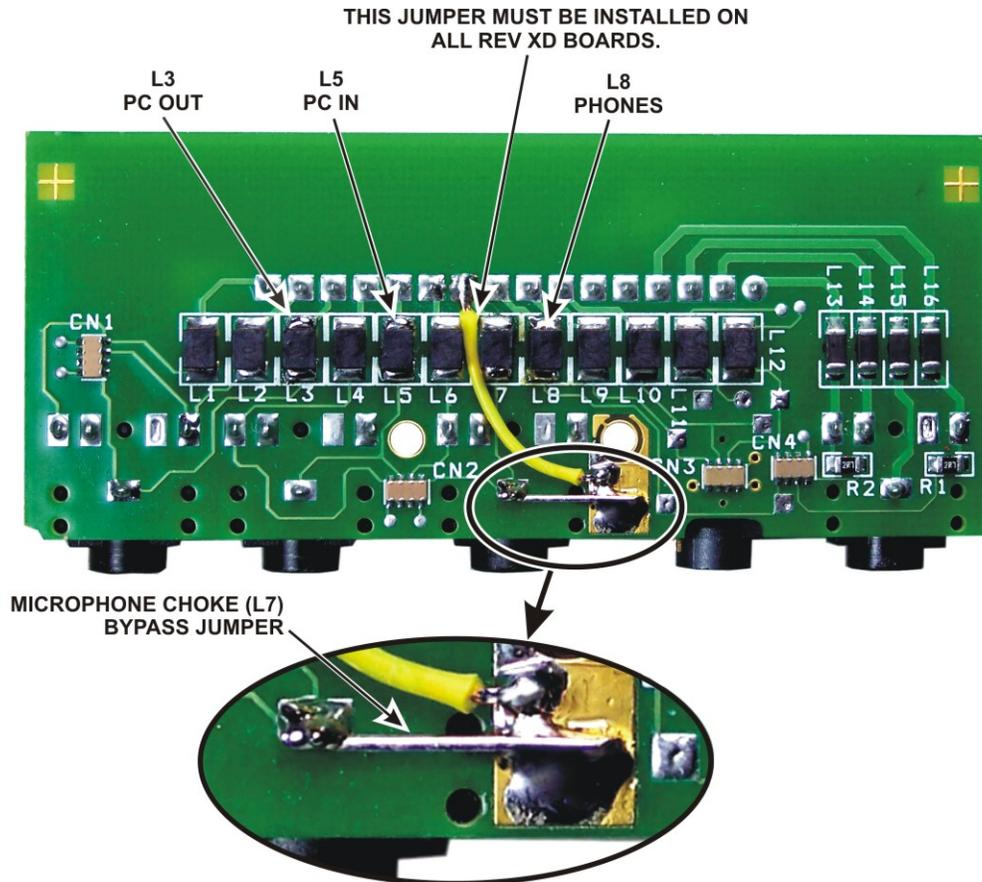

Figure 3. Audio I/O Module Choke Locations.
- If you have a revision XD Audio I/O module, ensure the long jumper shown in Figure 3 is installed. The revision is printed on the top side of the board. Install the jumper if it is missing.
- Install the MIC ground choke bypass jumper on the Audio I/O module as shown in Figure 3 using a short piece of wire such as a discarded component lead.